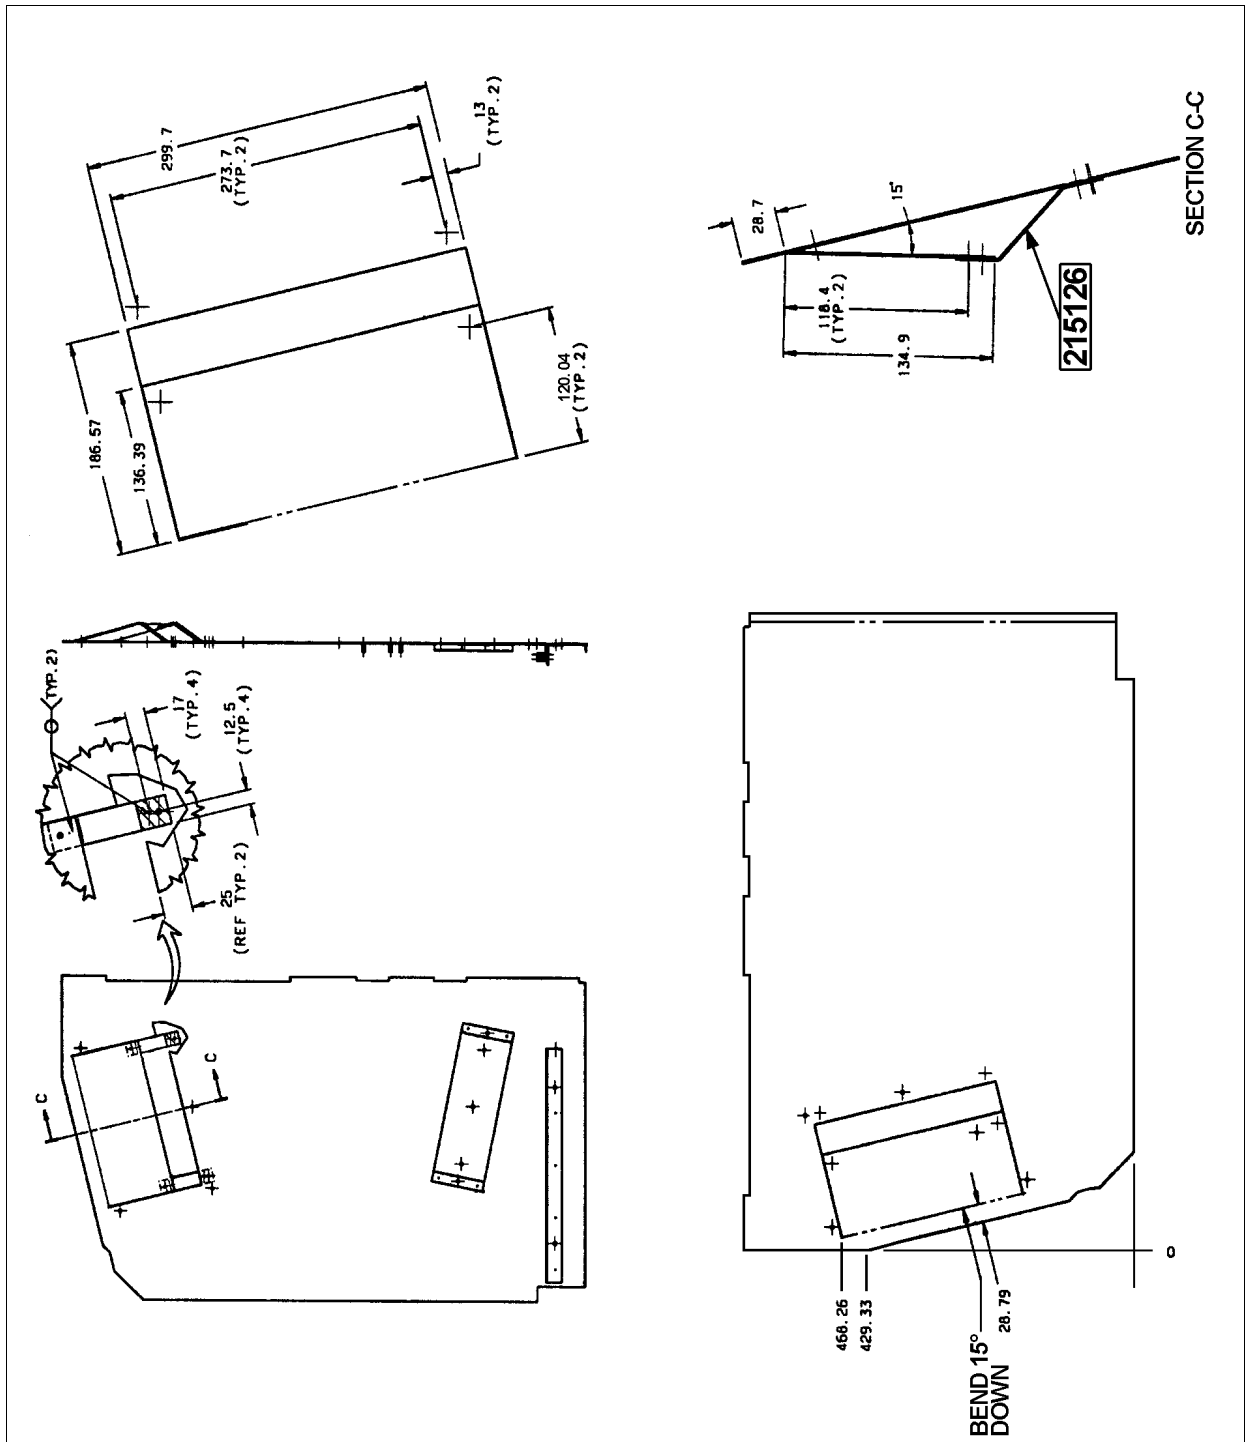

FIGURE 1
1. Open front service compartment door. Cut out floor sheet, apply sealant and fix in place shroud (373990) using rivets. Fix deflector "Z" shape attachment fittings (215126) using rivets (refer to figure 1).